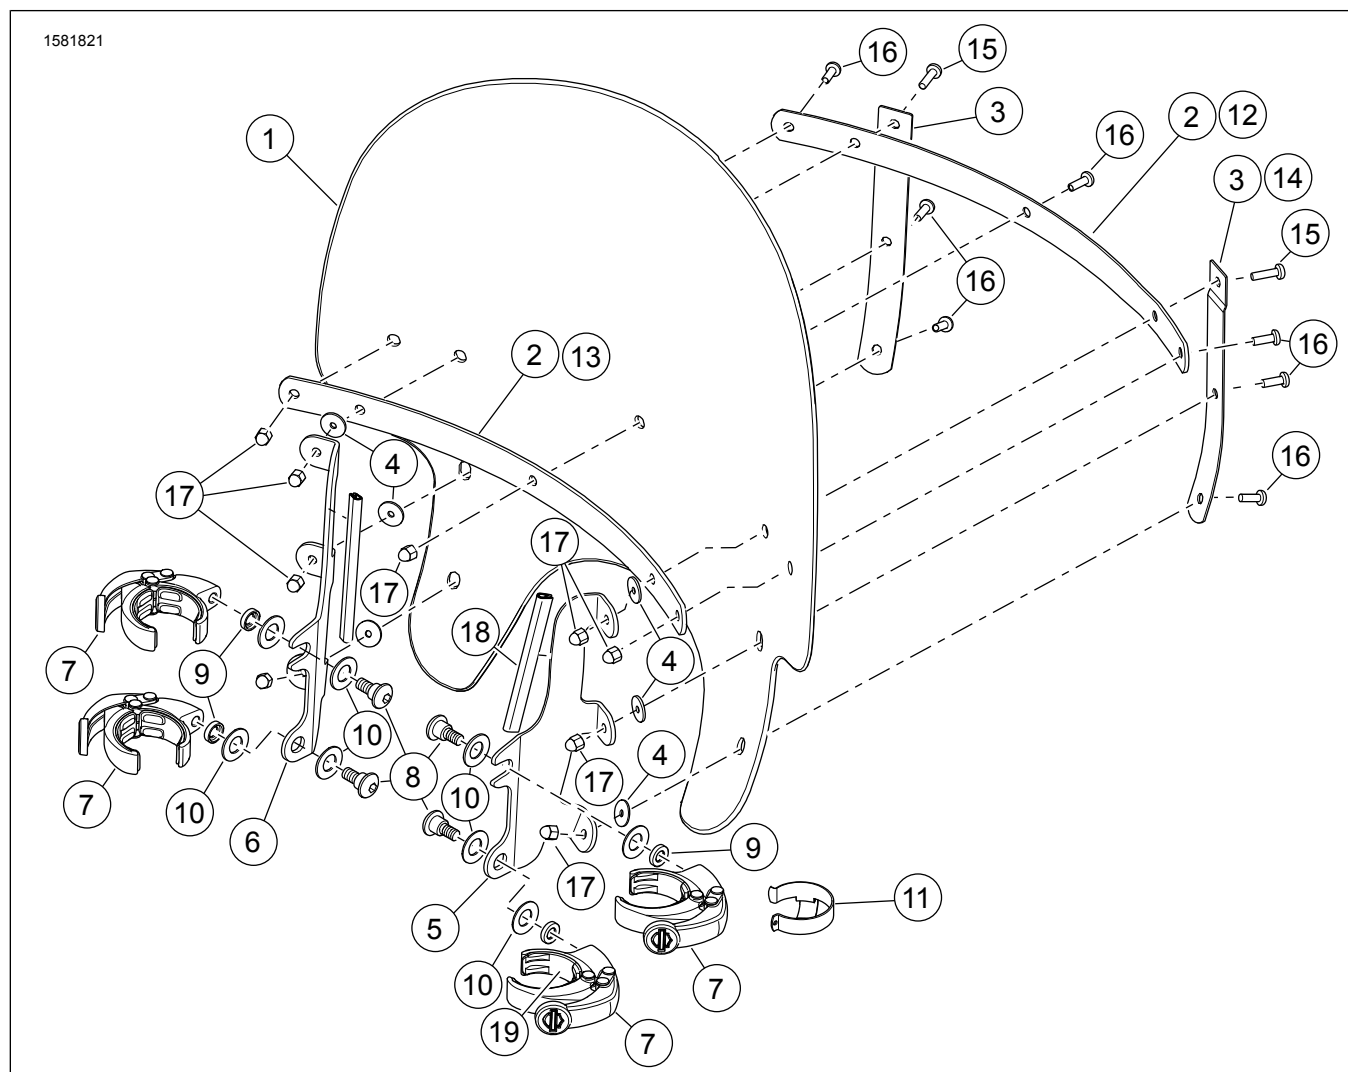

Figure 2. Service Parts: XL Quick Release Windshield
See Figure 2 and Table 1.
4. See Figure 2. Snap the throttle cable clip (11) around the right side fork tube, and route the throttle cables through the guide opening.